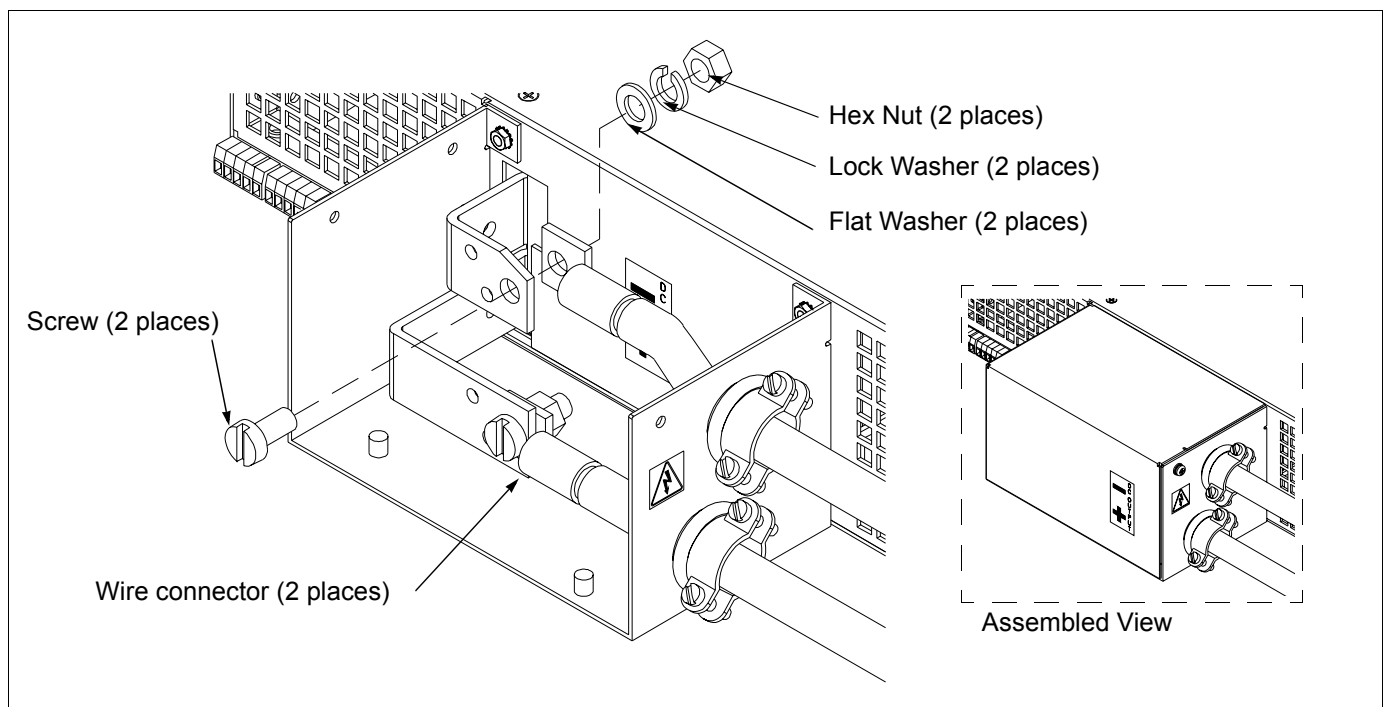

Figure 2.5 Typical Load Connection Hardware
6. Fasten connectors to bus bars with 5/16 in. x 5/8 in. (M8 x 16 mm) screws, 5/16 in. (M8) flat washers, lock washers, and hex nuts as shown in Figure 2.5.